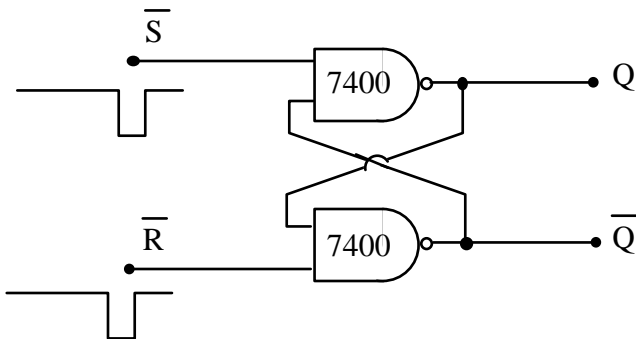

Fig. 8 The Set-Reset Type Flip-Flop.
a.) Build the S-R flip-flop circuit shown in Fig. 8 and determine its truth table. Briefly describe how it works. Note that *changes* in logic levels take a few nsec to propagate through a *NAND* gate. One of the four possible logic combinations of \overline{S} and \overline{R} implies memory action – which one?